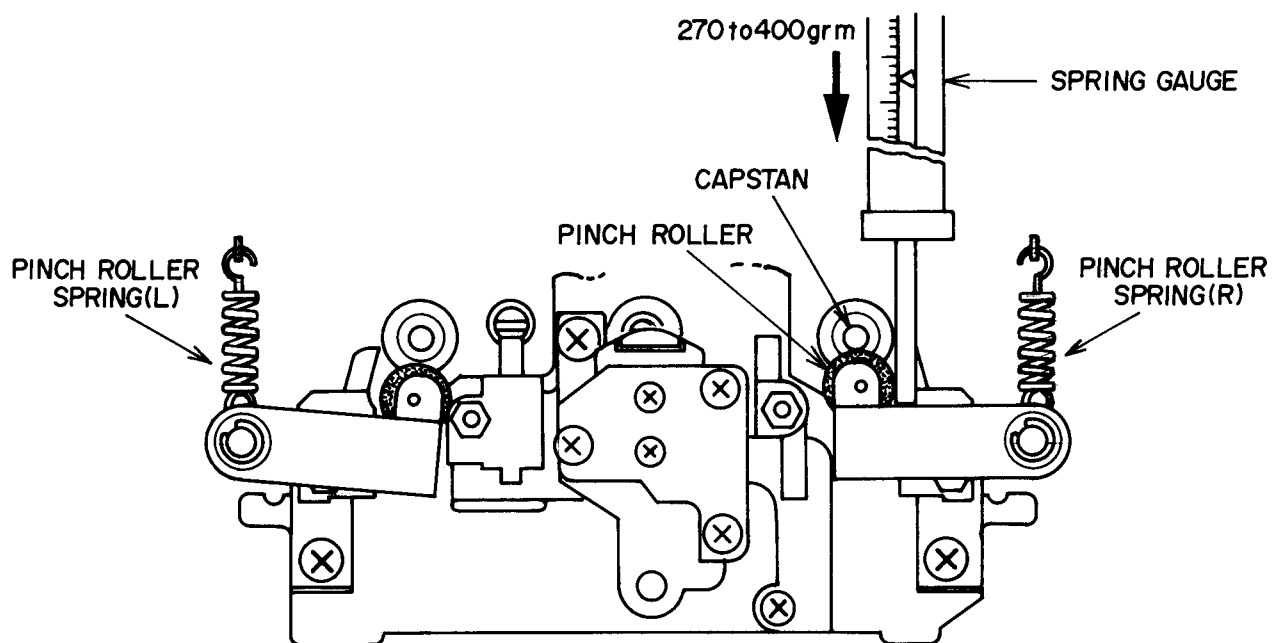

Fig. 21
3. PINCH ROLLER PRESSURE MEASUREMENT (Refer to Fig. 21)